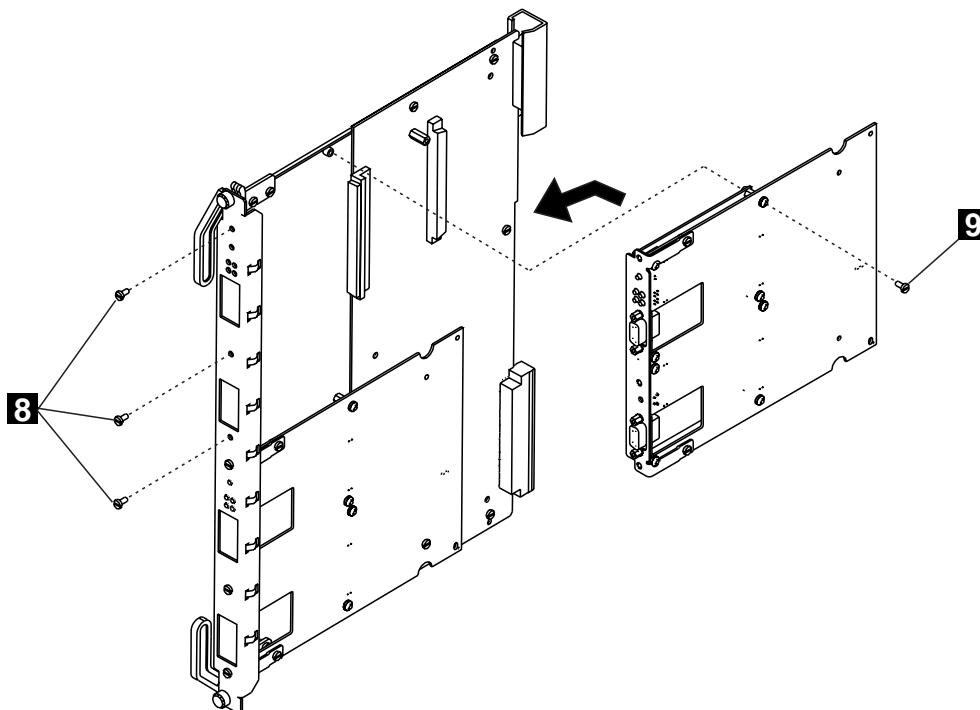

Figure 7. Reattaching the Motherboard
- **10** Reattach the motherboard to the module using the four screws (**8** and **9** in Figure 7) that you removed in Step 2 on page 19.